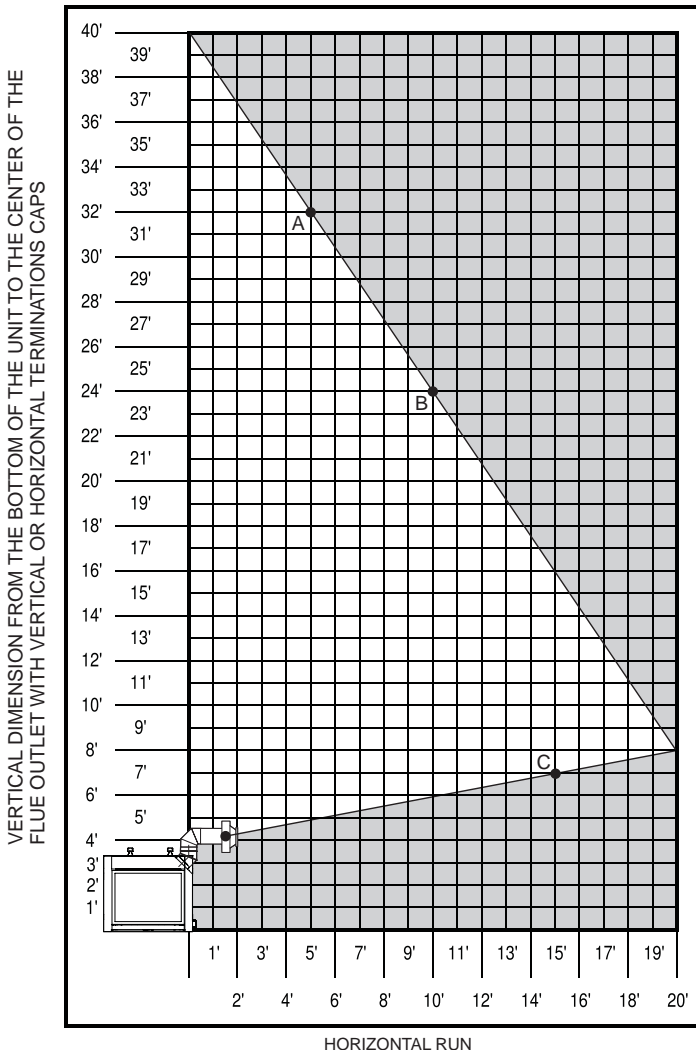

Figure 41
**SEE FIGURE 41 ON PAGE 27 FOR PERMISSIBLE TOP VENT HORIZONTAL AND VERTICAL DIMENSIONS.**